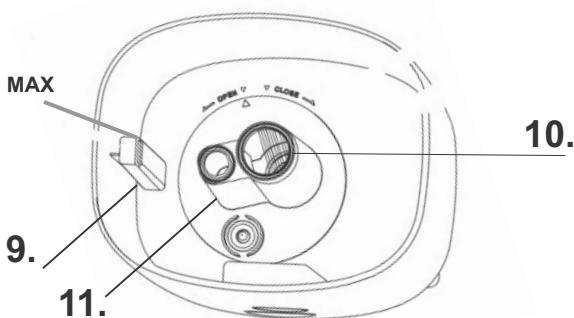

Figure 2
2. Open the water filling cover (2) together with water filling lid (1).
3. Remember the mist air duct (5) has to be installed inside water tank before adding the water.
4. When adding the water, do not inject water into the spray nozzle (3) and do not inject water into the mist outlet (10) as well do not inject water into the air outlet (9).
5. Pay attention to do not exceed the MAX (maximum) water level marked on the air outlet (9) - look at Figure 2. Use clean tap water.
6. Close the water tank cover (2) together with water filling lid (1). Plug in the device.
7. When the device is not planned to be used the water should be poured out the water tank (6).